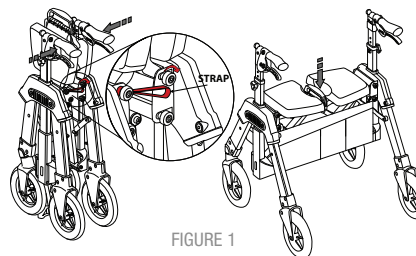

FIGURE 1
1. To open the Rollator, squeeze handles together and unhook Strap, pull handles apart, and push down on the seat as shown in FIGURE 1.